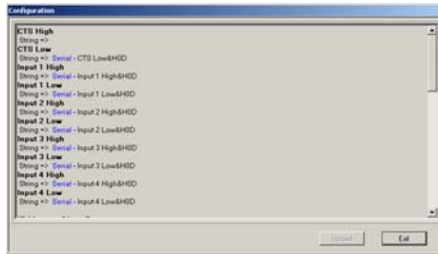

Figure 5 – Sample Configuration Display
- Click the **Show Config** button to display the current configuration present in the GUI. Figure 5 below shows an example of a unit's configuration. All INPUT Strings and IR Codes are available